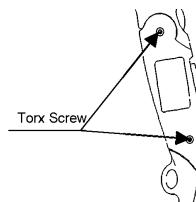

Figure 10
9. Assembly Handle A and drive with torx screw as shown in Figure 10.